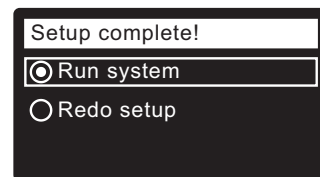

FIG. 33
- Press the SELECT (○) button. The screen will show “Setup complete!” (See Figure 33).
- If no changes are desired, make sure **Run system** has a dot next to it (See Figure 33) and press the SELECT (○) button. The unit begins normal operation, described on Page 28.